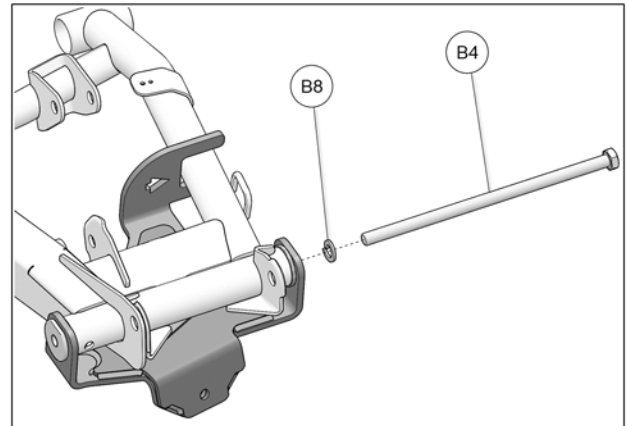

Fig. 8
- Slide Lockwasher (**B8**) on M12x260mm bolt (**B4**); insert bolt through anchor bracket, T-Bushing (**B5**), and suspension arm until threaded T-Bushing (**B6**) is reached. Thread bolt in bushing and torque to 85 N•m [63 lb•ft]. See Fig. 8